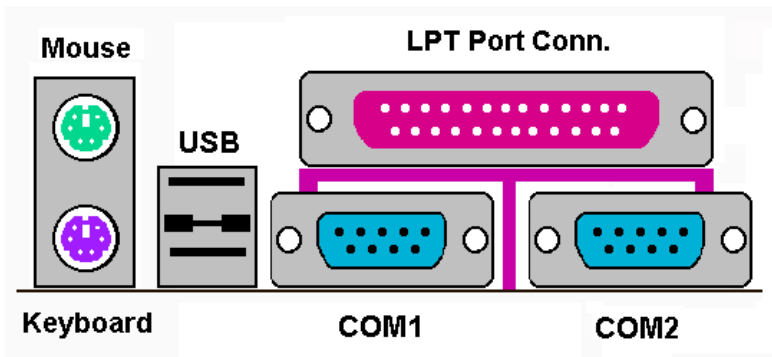

**Figure 2-10. How to connect an ATA/66 Cable to the Motherboard**
- Attach the **BLACK** connector to the mating plug on the master hard drive. Attach the **GREY** connector to the mating plug on the slave drive (secondary hard drive, CD-ROM, or tape drive). Please refer figure 2-10.